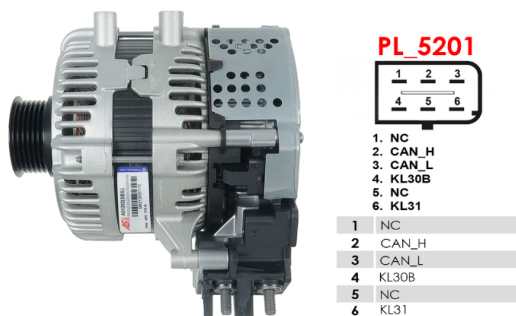

Figure 26. Starter-alternator L1TA-11238 and terminal designations in the connector
1.1. As an example, Figure 26 and the corresponding table show the wiring diagram for the 48 V starter-alternator L1TA-11238.